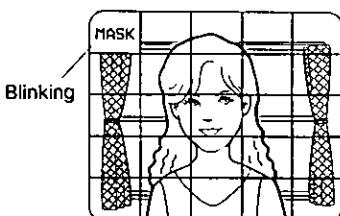

Fig. 53
- To mask this area, press the Setup Mode Button (SET UP). The word "MASK" appears in this area as shown in Fig. 53.